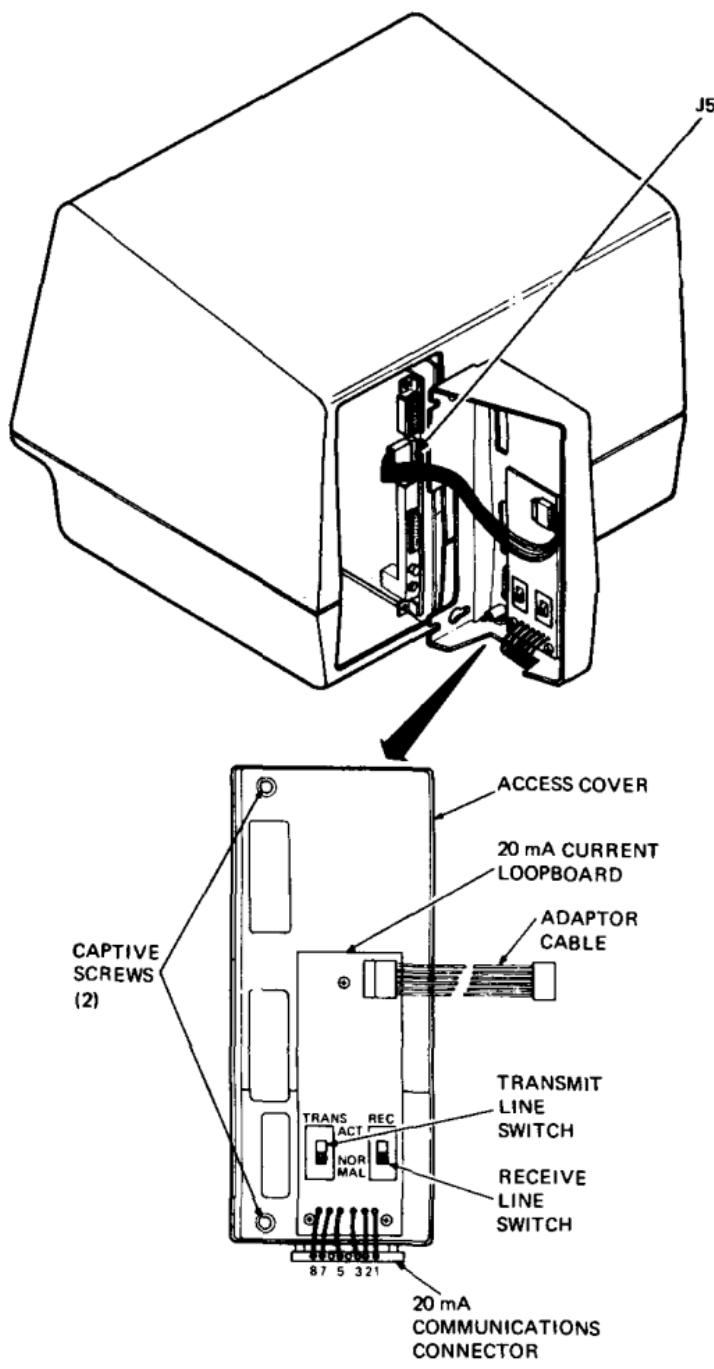

Figure 5-3 Switch Settings and Connections
4. Set the TRANS (transmit) and REC (receive) switches to the proper configuration (Figure 5-3). The switches determine if the transmitter and receiver of the 20 mA board are in either active or normal (passive) operation. Usually the terminal is connected using normal (passive) operation. Passive operation means the terminal does not supply the 20 mA current used when communicating. Active operation means the terminal supplies the 20 mA current used when communicating.
5. Connect either end of the cable supplied with the option to the 20 mA board. Place the access cover next to the opening in the back of the terminal; connect the other end of the cable to the connector (J5) on the terminal controller board (Figure 5-3).
2. Set both the REC and TRANS switches to the NORMAL position (Figure 5-3).